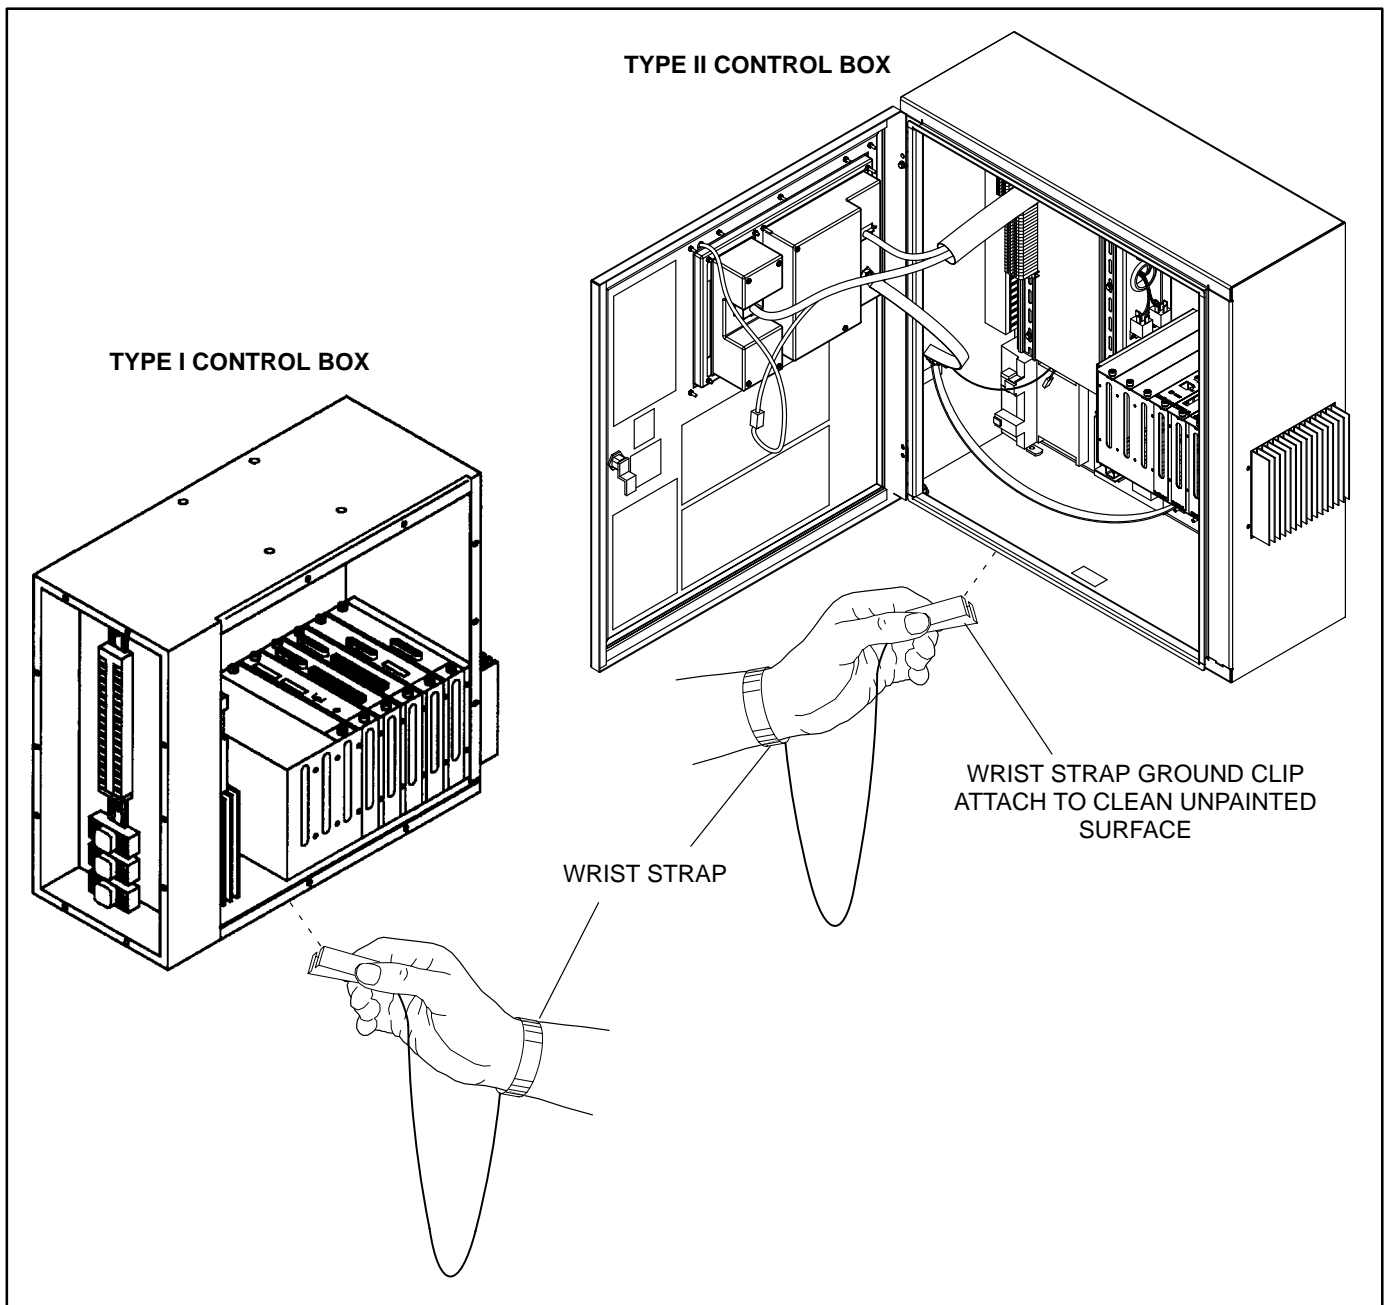

FIGURE 2. WRIST STRAP CONNECTION
**NOTE:** In addition to the Type II control shown in Figure 2, which includes the operator panel assembly installed in the door, some Type II controls include operator panel piece parts installed in the door.
Attach the clip to a clean unpainted surface of the control box (see Figure 2) and place the strap around your wrist before handling a circuit board.
7. Connect the wrist strap ground clip as shown in Figure 2.
15. Connect the wrist strap ground clip as shown in Figure 2.